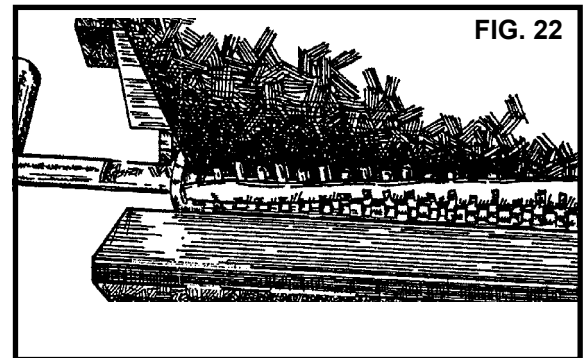

FIG. 22
**NOTE:** To ease paper removal on #30 hooks, partially set the hooks, slit the paper lengthwise on one side of the belt and pull the paper away from each side of the belt (Fig. 22). Remove the paper before making the final set at full pressure.